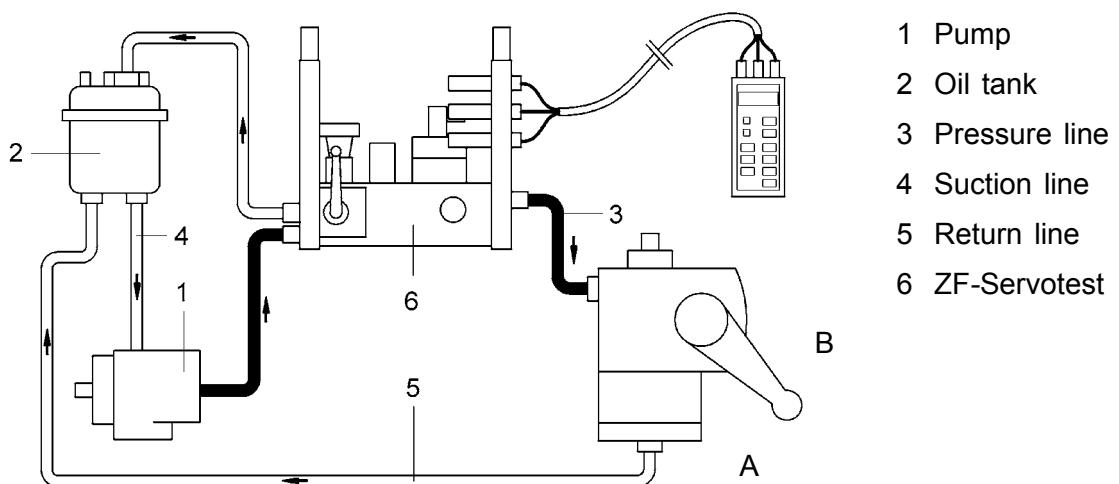

Fig. 10
Fit a pressure gauge (pressure range up to 250 bar) or tool [1] (ZF Servotest power steering tester) to the pressure line between the pump and the steering gear (see Fig. 10).
If the setting takes place at set screw (128) the drop arm will be caused to move in direction “B” (Fig. 10).